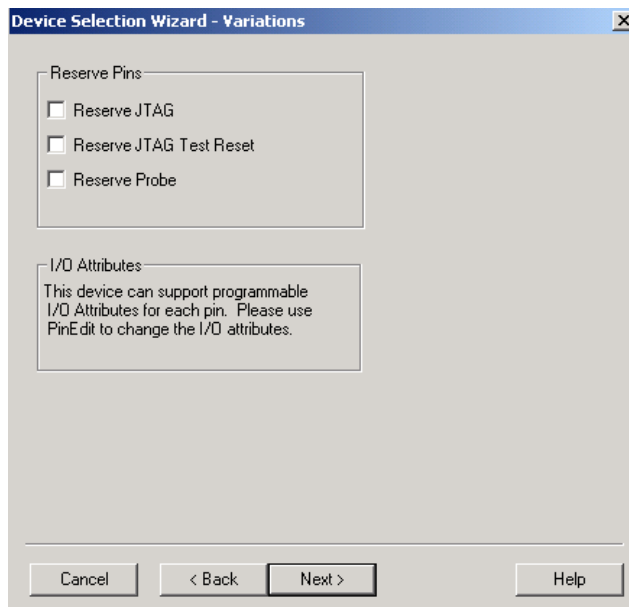

Figure 7-15. Device Selection Wizard, Device Variations (Screen Varies Depending Upon Device)
4. **Click *Next*.** The Device Selection Wizard prompts you to set Variations, as shown in Figure 7-15.